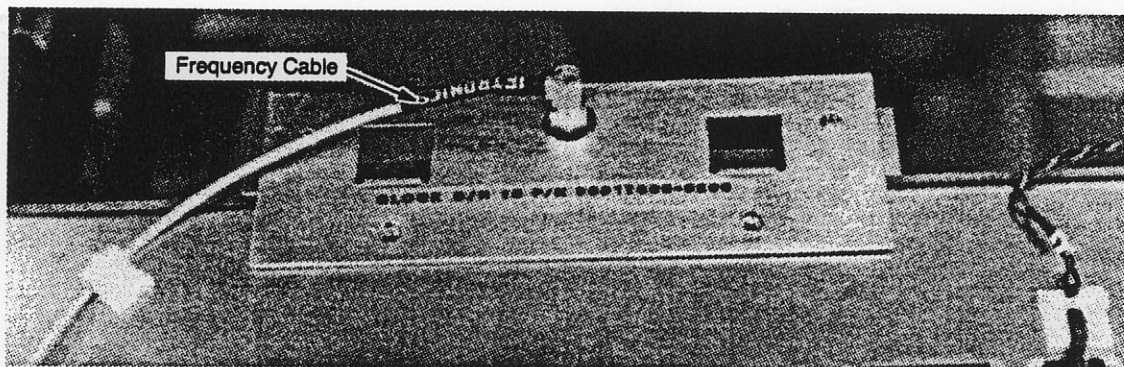

Figure 7-19. Clock Module Frequency Cable
4. Remove the frequency cable by unscrewing the lower nut on the frequency cable connector. Refer to Figure 7-19.